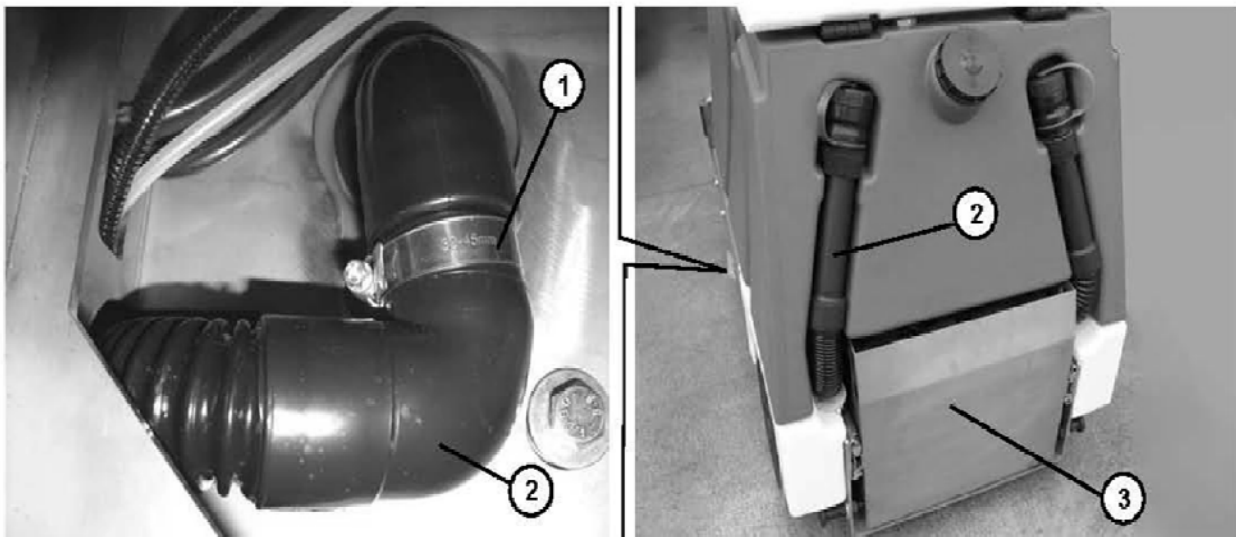

Figure 10-7
4. Operating on the left side of the machine, loosen the strap well (1, **Figure 10-7**) and then disconnect the recovery water drain hose (2) from the tank coupling. If necessary, to facilitate the removal of the hose from the tank, open the battery drum (3) (See the procedure in the User and Maintenance Manual).
5. Remove the hose (2) from the machine.